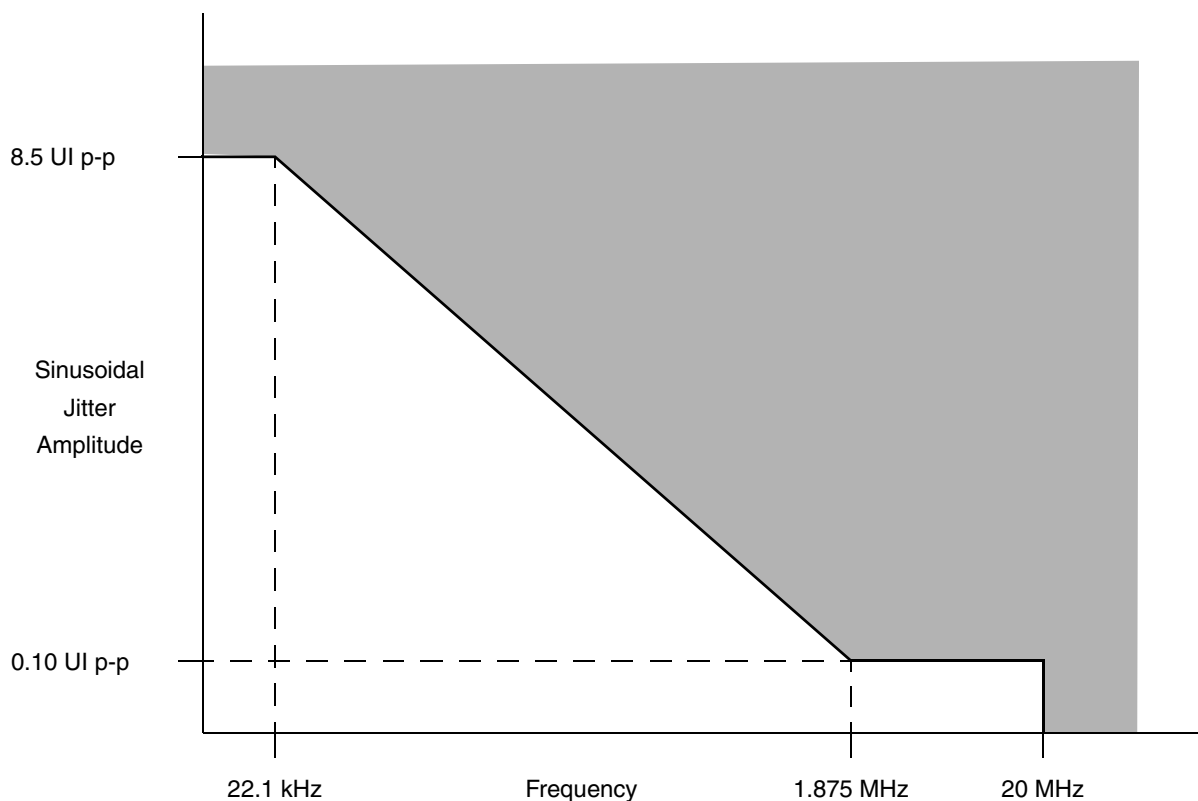

Figure 46. Single-frequency sinusoidal jitter limits
2. Total jitter is composed of three components: deterministic jitter, random jitter and single frequency sinusoidal jitter. The sinusoidal jitter may have any amplitude and frequency in the unshaded region of Figure 46. The sinusoidal jitter component is included to ensure margin for low-frequency jitter, wander, noise, crosstalk, and other variable system effects.
2. Total jitter is composed of three components: deterministic jitter, random jitter, and single frequency sinusoidal jitter. The sinusoidal jitter may have any amplitude and frequency in the unshaded region of Figure 46. The sinusoidal jitter component is included to ensure margin for low frequency jitter, wander, noise, crosstalk, and other variable system effects.